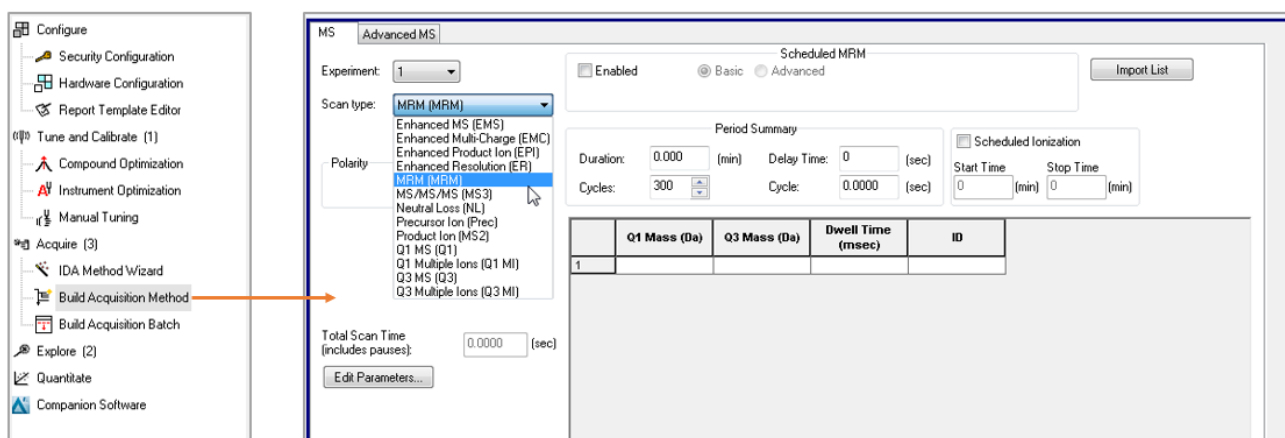

Figure B-1: Building an Acquisition Method in Analyst® Software.
3. On the left panel under *Acquire* (**Figure B-1**), double click *Build Acquisition Method*. From the drop-down menu for scan type, select *MRM*.